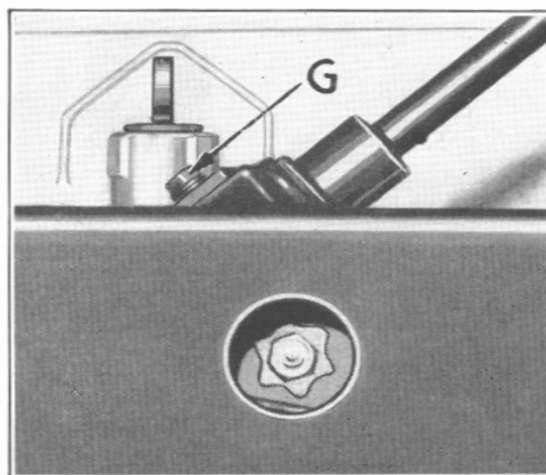

Figure 51
LUBRICATION — Every 1,000 miles the oil level in the steering gear housing should be checked by removing plug (G), Fig. 51. If level is low refill to bottom of hole with S.A.E. 90 E.P. gear oil, summer or winter. Be sure plug is securely tightened.